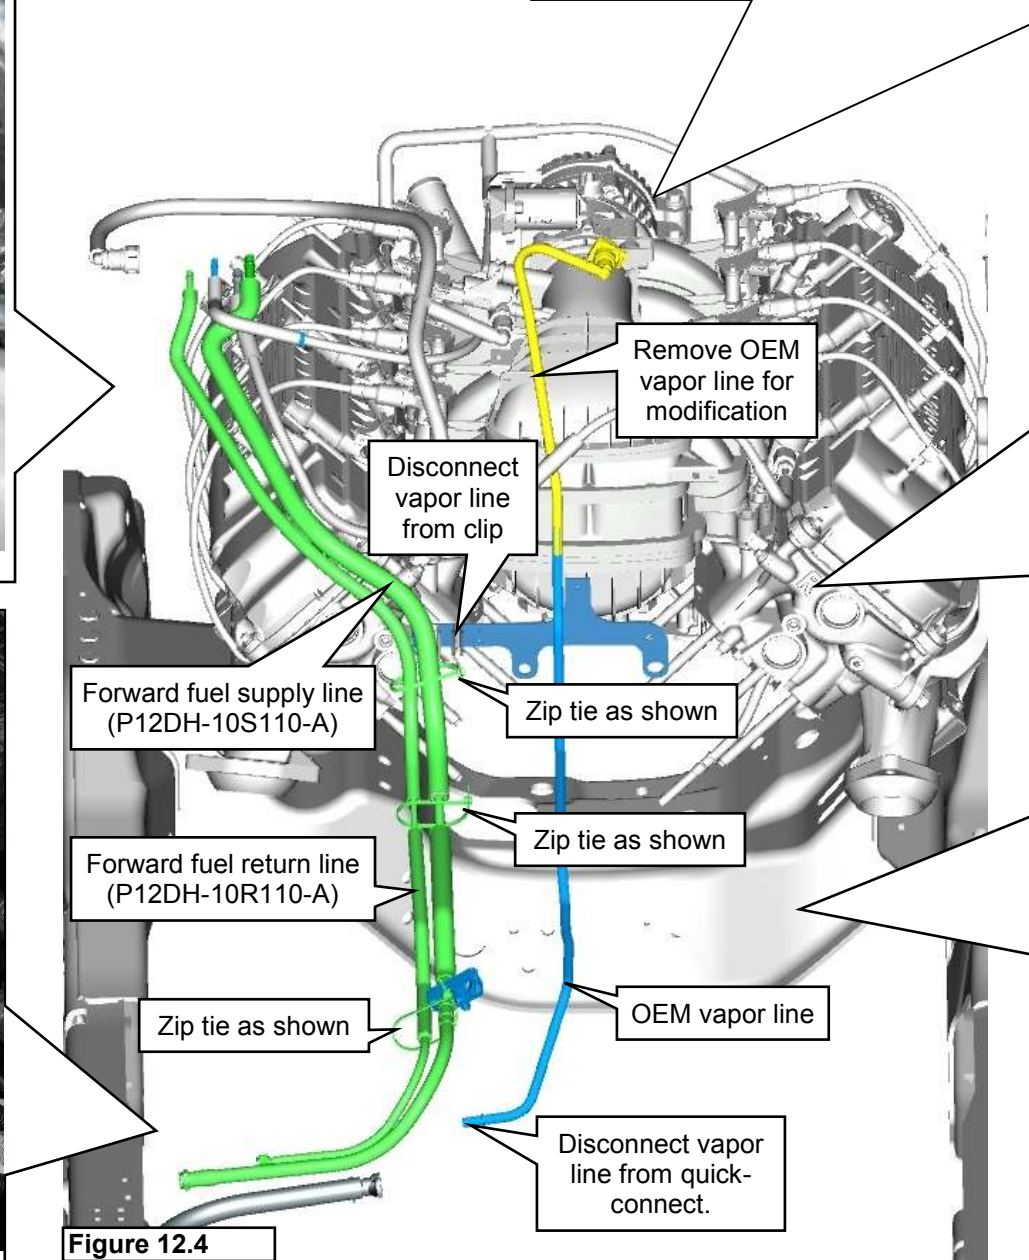

Figure 12.4
1. Remove the OEM vapor hose and steel line at its attachment points; at the retention bracket on the transmission bellhousing and near the frame rail at the quick-connect fitting. **Figure 12.4.**
3. From underneath the vehicle, route the forward fuel supply and return lines over the transmission, up into the engine compartment just under the cowl and dash panel. The forward fuel lines can be found in P12DH-ENGKIT-A. **Figure 12.4.**